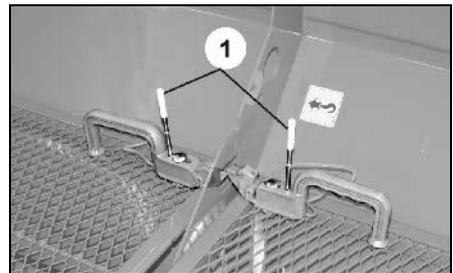

Fig. 6
- (Fig. 6/1) Parkposition (Standardposition)